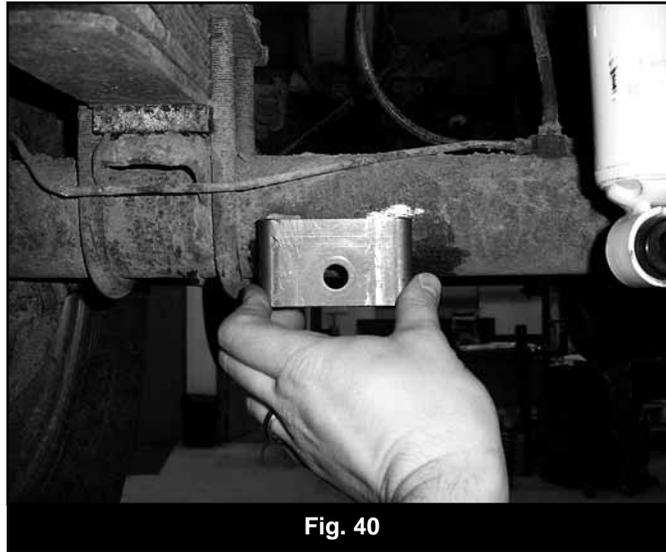

Fig. 40
28. Locate the new lower shock mount brackets (01475). The new mounts should be positioned on the lower half of the axle just inside of the leaf spring u-bolt (Fig 40). Leave enough room between the u-bolt and the bracket to weld (about 1/2" - 3/4"). Note: The driver's side mounts to the back side of the axle and the passenger's side to the front.